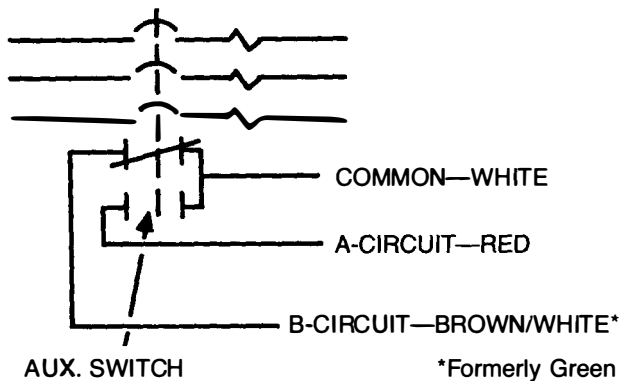

Figure 38.
- a. Verify that "A" contacts Figure 38 (red and white leads) are open when breaker is open.